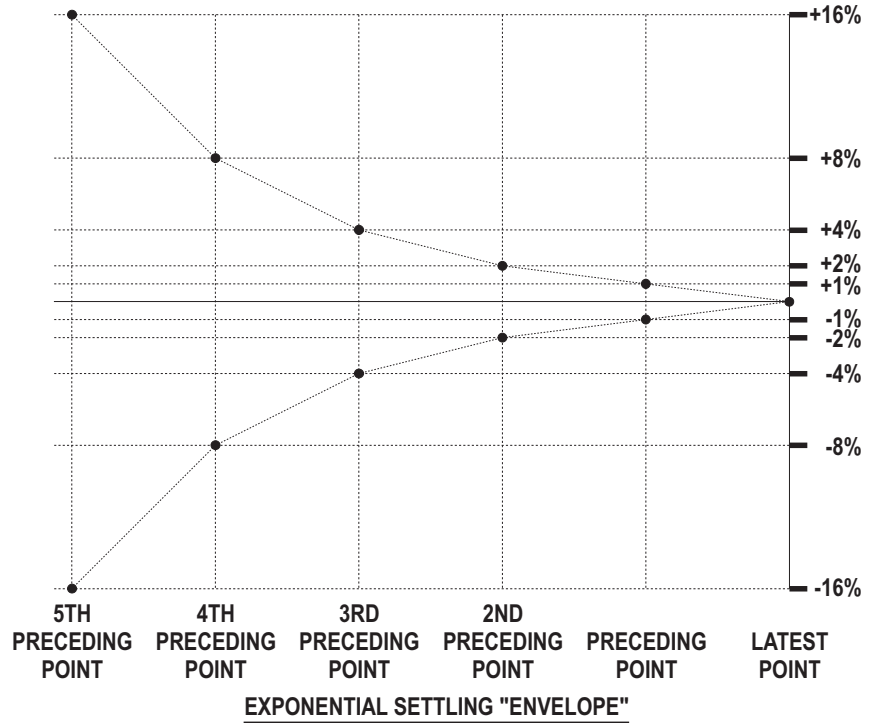

Figure 15-27 Graphic Representation of Exponential Settling Criteria, 1% Tolerance and 6 Points
If the **Exponential** algorithm is selected, the newest reading (N) must agree with the immediately preceding reading (N-1) within the Tolerance value, with the reading before (N-2) that within twice the Tolerance value, with the reading before that (N-3) within four times the Tolerance value, etc. Figure 15-27 shows the “envelope” within which a succession of readings must fit if Tolerance is set to 1%. Exponential is the recommended settling algorithm for most audio